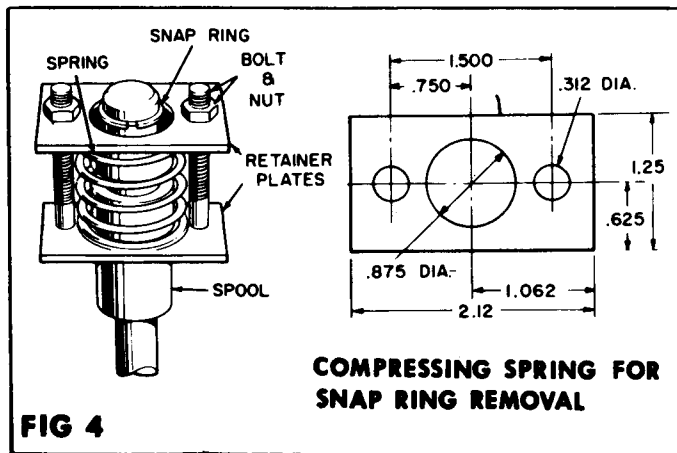
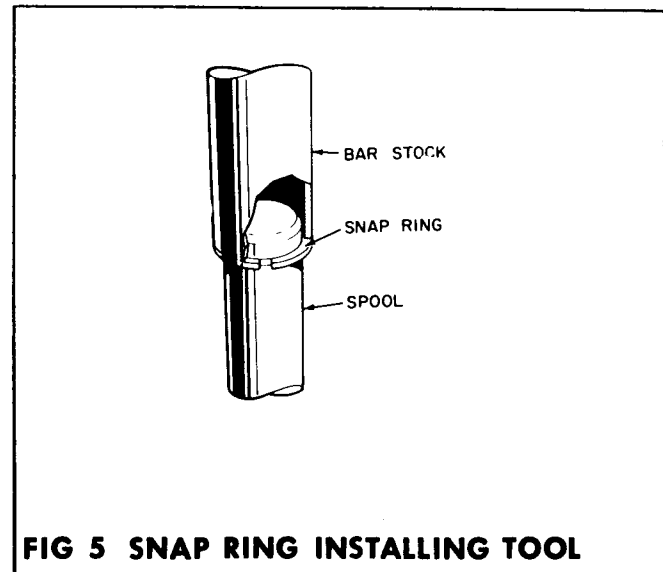

FIG 4
FIG 5 SNAP RING INSTALLING TOOL
(b) For compressing spring on spring-centered spools, two retainer plates with bolts and nuts, as shown on Fig 4 may be used. To operate spring compressor, place one retainer plate over the eye end of the spool and against the bottom spring spacer and the other retainer plate against the top spring spacer. Line up holes and install bolts and nuts. Tighten nuts evenly to compress spring sufficiently to allow removal of snap ring. Caution should be exercised as spring is decompressed. Unscrew bolts slowly until
(c) A sleeve type tool (see Fig 5) can be made for ease in snap ring installation on spring-centered type spools. Select a piece of round bar stock approximately 5 inches in length and slightly larger in diameter than the snap ring being installed. Drill a hole in the stock slightly larger than the stud end of the spool. Remove any sharp edges. To use sleeve type tool when ready to install snap ring, compress spring (see Fig 4) then position snap ring on stud end of spool. Position tool against snap ring and tap rather sharply with a rawhide mallet, until snap ring is seated in groove.
Unscrew and remove spool cap (1). Then grasp spring end of spool and withdraw from valve body. Clamp spool in a soft-jawed vise, compress spring (see paragraph 2 (b) and Fig 4), then remove snap ring (3), outer spring spacer (2), spring (4), travel limit washer (5) and inner spring spacer (2) from spool (9) or (10).